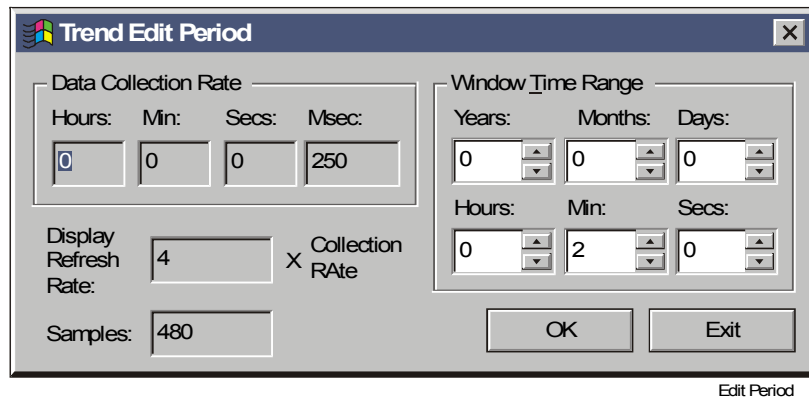

Figure 14-19: Trend Edit Period Dialog Box
2. Click on the Edit Period button . The Trend Edit Period dialog box appears (Figure 14-19).